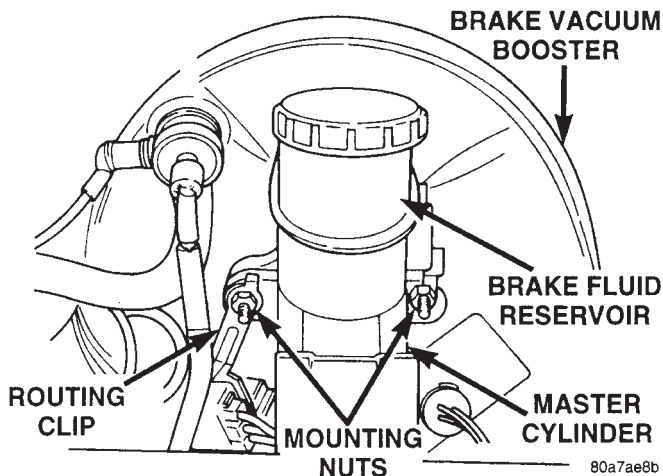
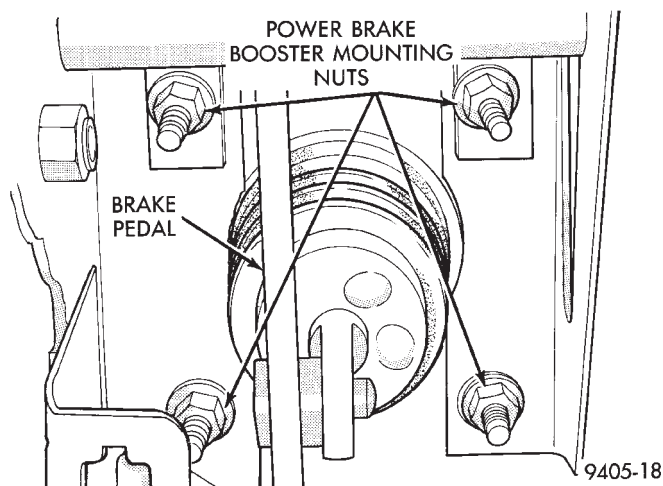

**Fig. 96 Master Cylinder Mounting**
Fig. 99 Vacuum Booster Mounting
(9) Remove the 2 nuts (Fig. 96) attaching the master cylinder assembly to the power brake vacuum booster.
(10) Remove the routing clip and chassis brake tubes (Fig. 96) (as an assembly) from the mounting stud for the master cylinder.
(13) Remove the 4 nuts attaching the vacuum booster to the dash panel. Nuts are accessible from under dash panel in area of the steering column and pedal bracket assembly (Fig. 99).
(1) Install vacuum booster onto dash panel using the reverse procedure of removal.
(2) Install and tighten the 4 vacuum booster mounting nuts (Fig. 99) to a torque of 37 N·m (27 ft. lbs.) torque.
(3) Using lubriplate, or an equivalent, coat the surfaces of the brake pedal pin that contact the power vacuum booster input rod.
(4) Connect vacuum booster input rod to brake pedal pin and install a NEW retaining clip. **Use only a new retainer clip DO NOT USE the old clip.**
(5) Position master cylinder on studs of vacuum booster, aligning push rod on vacuum booster with piston of master cylinder.
(6) Install the routing clip and chassis brake tubes (Fig. 96) on the inboard mounting stud for the master cylinder.
(7) Install the 2 master cylinder to power brake unit mounting nuts (Fig. 96). Tighten the 2 mounting nuts to a torque of 28 N·m (250 in. lbs.).